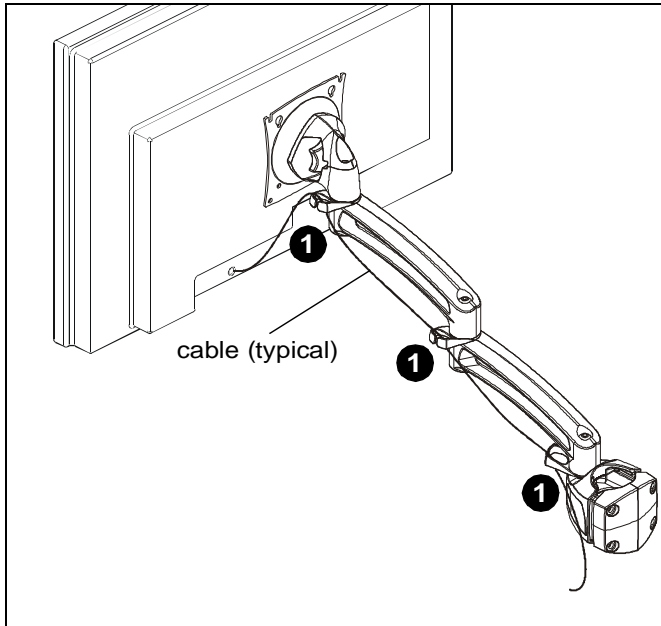

Figure 15
1. Route cables through cable management channels. (See Figure 15)